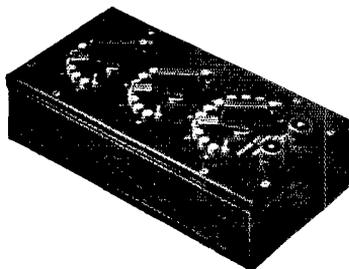

Fig. 4—Decade Resistance Box
1. DECADE RESISTANCE. 0-111 ohms. General Radio Type 102-F. See Fig. 4. Substitute: Resistance wire, No. 30 or smaller, stretched out straight on the table, with a variable clip. Measure its resistance with D.C.